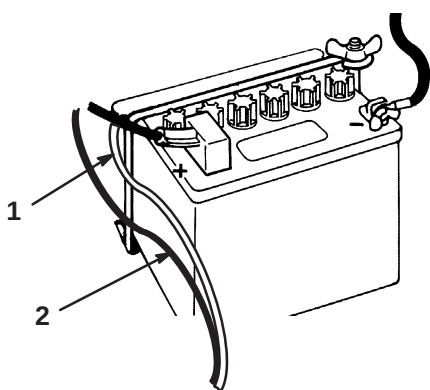

Figure 5
1. Install the battery with the terminal posts toward the rear of the machine and vent tube on the left side of the battery, through the hole in the frame (Fig. 5).
3. Install the red positive cable (rubber boot over end) to the positive (+) terminal and the negative cable (black) to the negative (–) terminal of the battery and secure with capscrews and wing nuts. Slide the rubber boot over the positive terminal to prevent a possible short-out from occurring (Fig. 5).